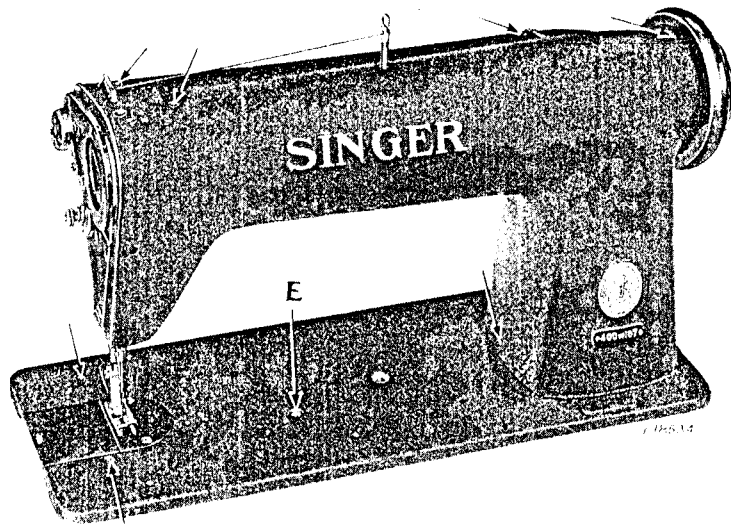

Fig. 3. Showing the Eight Oiling Points on the Machine
**BEFORE STARTING THE MACHINE**, fill the oil reservoir (through the oil gauge hole) to the top mark on the oil gauge **E**, Fig. 3.
**ONCE A DAY**, turn the balance wheel until the needle is all the way up, and place **A FEW DROPS** of oil in each of the seven oil holes indicated by arrows in Fig. 3.